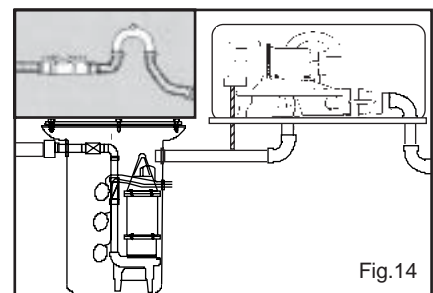

Fig.14
- **USING A DISCHARGE LOOP** - For sewage and sump applications where the discharge drains naturally down and away from the pump installing a 8" to 10" positive loop right on the discharge port will improve the self priming feature. When you stop pumping the loop traps some liquid against the discharge valve improving the seal. Fig.14